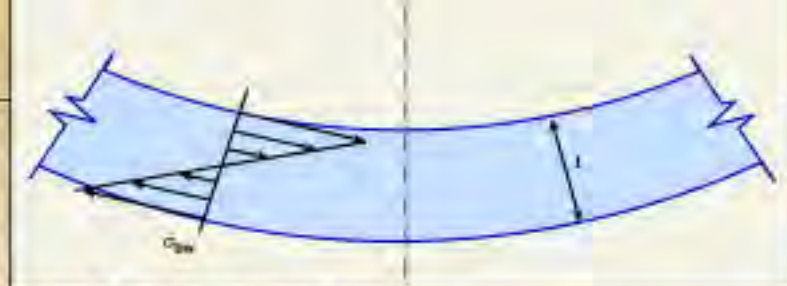

FIGURE 4. Through-wall bending stress
**Through-wall bending stress.** As shown in Figure 4, through-wall bending stresses are induced in buried pipe due to surface earth and live loads. The stresses may be computed as follows in Equation (5):